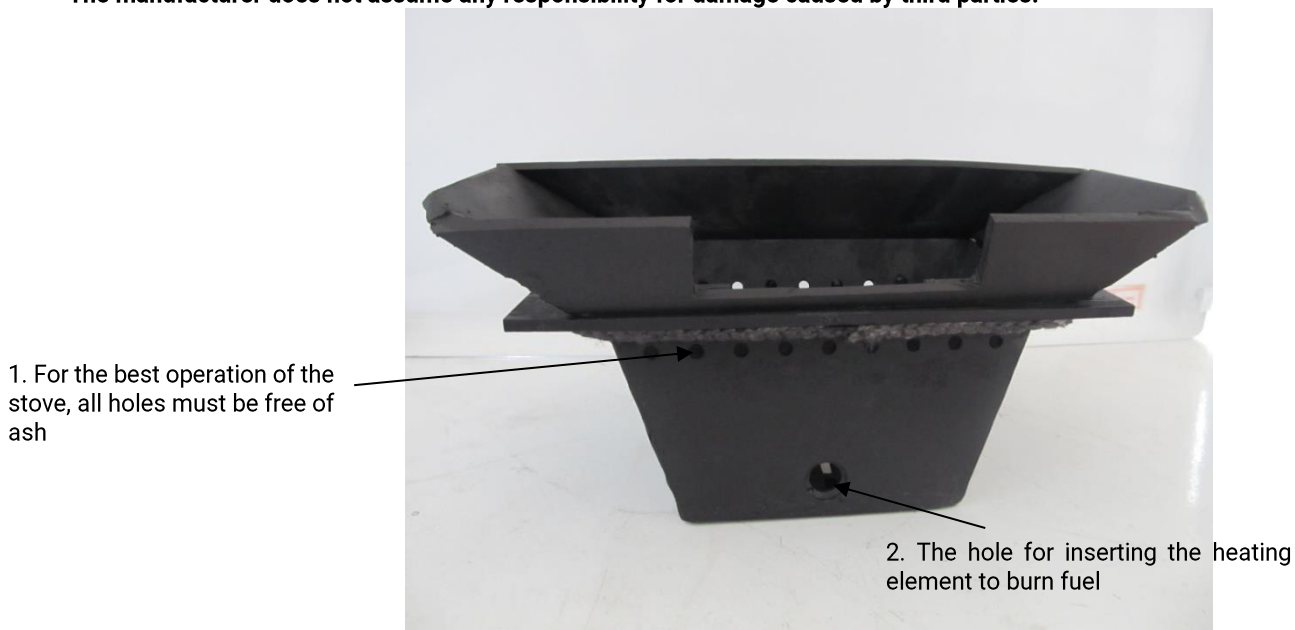

Figure 16
- FIREBOX (box-shaped) - it burns the pellets made out of wood mass. See Figure 16. It is recommended that the firebox be vacuum cleaned after each use, **every day** (when the stove is cool). Every day, it is recommended to take out the firebox and to make sure that there is no residual ash at the bottom of it, as well as unburned pellets that were collected at the bottom of the firebox. Then put the firebox back and set it firmly into place to ensure the safe running of the stove. The firebox must sit straight - horizontal, it must not be tilted! The sealing tape from the underside of the firebox must be in its place, and must not be damaged.